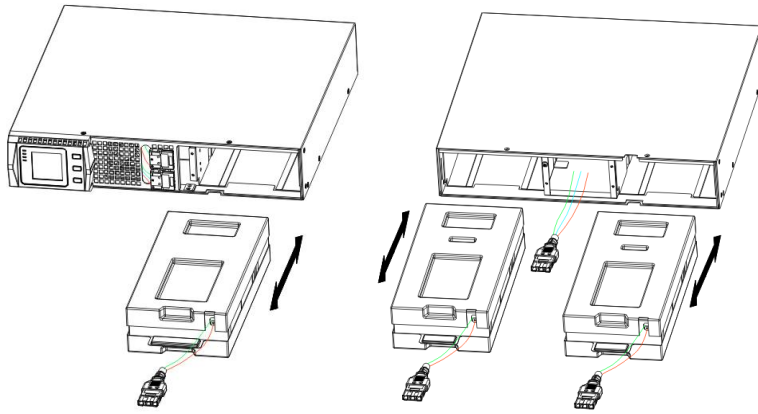

Fig.24 Remove the battery park
4. Grasp the handle in front of the battery pack, take out of it and hold it, then remove the battery pack as fig. 24 shown.